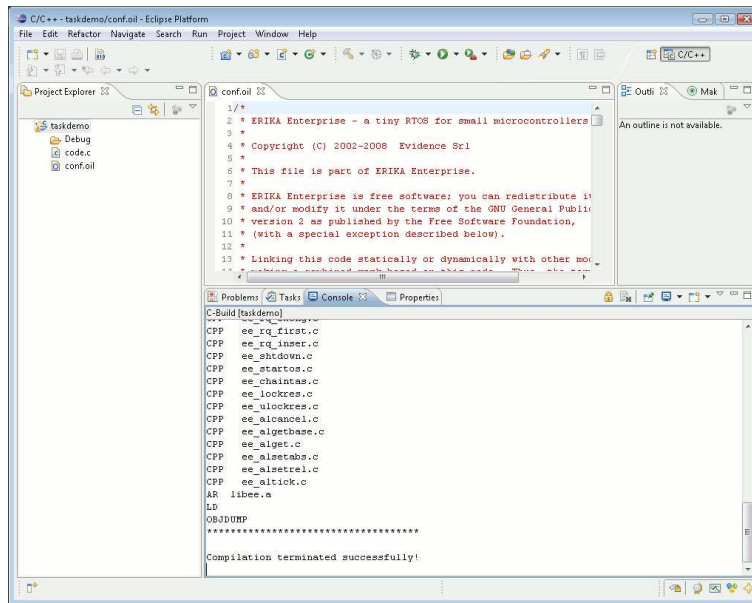

Figure 5.5: The compilation process.
6. Then, the compilation process starts as depicted in Figure 5.5. Please note the message that appears when the compilation is successful.